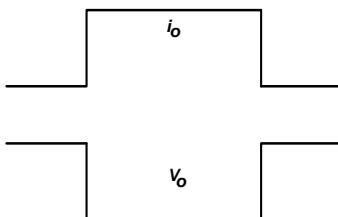
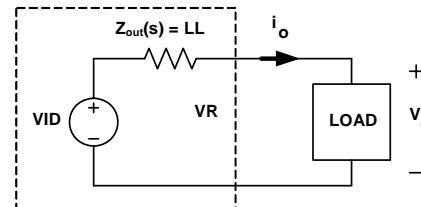

FIGURE 19. DESIRED LOAD TRANSIENT RESPONSE WAVEFORMS
FIGURE 25. VOLTAGE REGULATOR EQUIVALENT CIRCUIT
With proper compensator design, Figure 19 shows the expected load transient response waveforms. When the load current  $i_o$  has a square change, the output voltage  $V_o$  also has a square response.
Figure 19 shows the desired load transient response waveforms while Figure 25 shows the equivalent circuit of a voltage regulator (VR) with the droop function. A VR is equivalent to a voltage source (VID) and output impedance  $Z_{out}(s)$ . If  $Z_{out}(s)$  is equal to the load line slope  $LL$ , i.e. constant output impedance, in the entire frequency range,  $V_o$  will have square response when  $I_o$  has a square change.